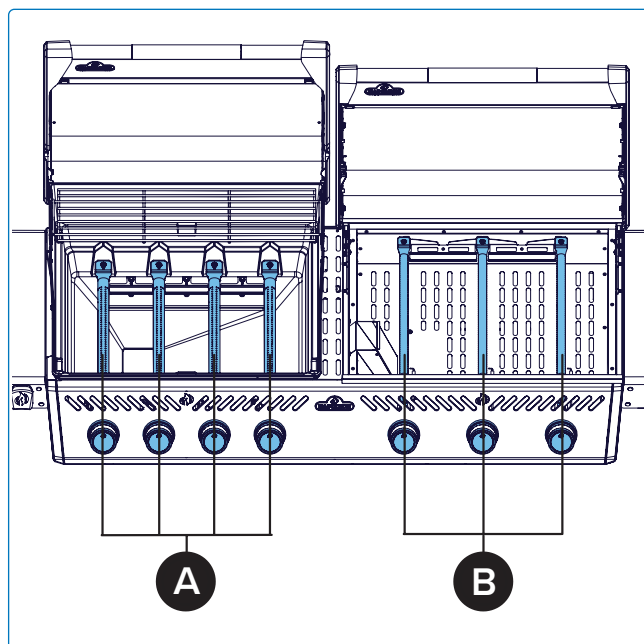
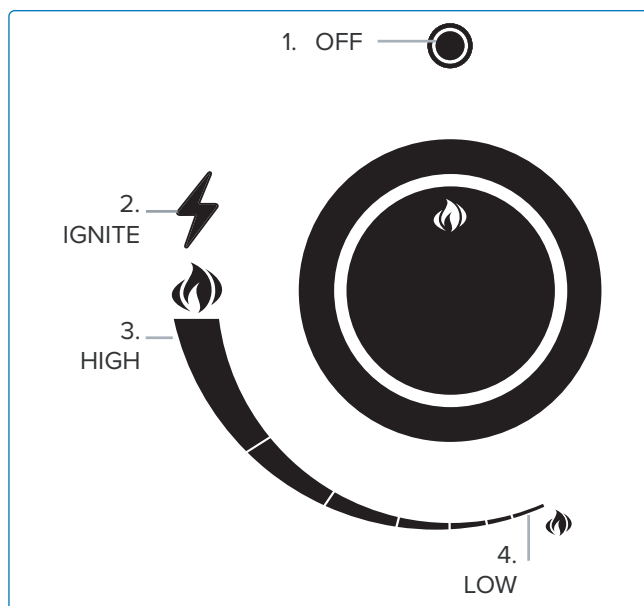

Fig. 8
Fig. 9
1. Open the lid (**Fig. 8**).
2. Push and slowly turn any main burner control knob counterclockwise to the HIGH position until the pilot lights. Continue to push down on the control knob until the burner lights, then release (**Fig. 8, Fig. 9**).